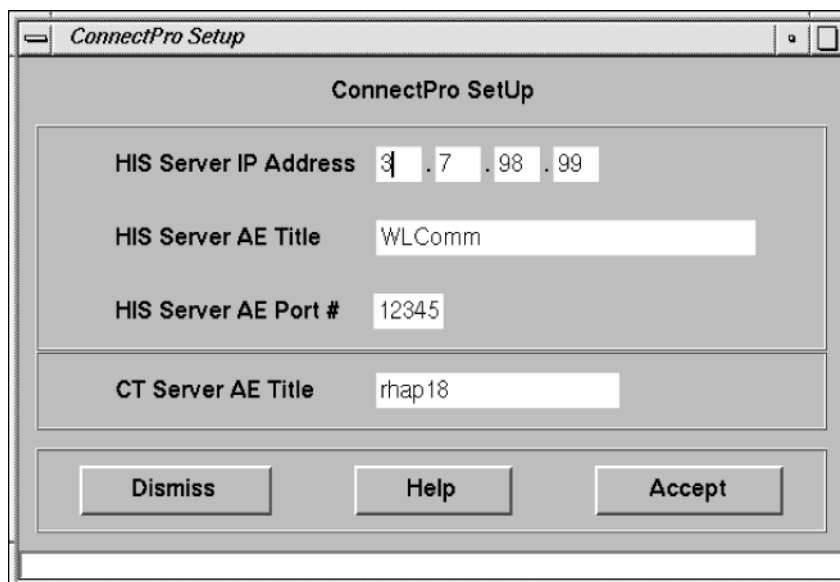

Figure 9-6 ConnectPro Setup Screen
- the console displays the ConnectPro Setup window as shown in Figure 9-6.